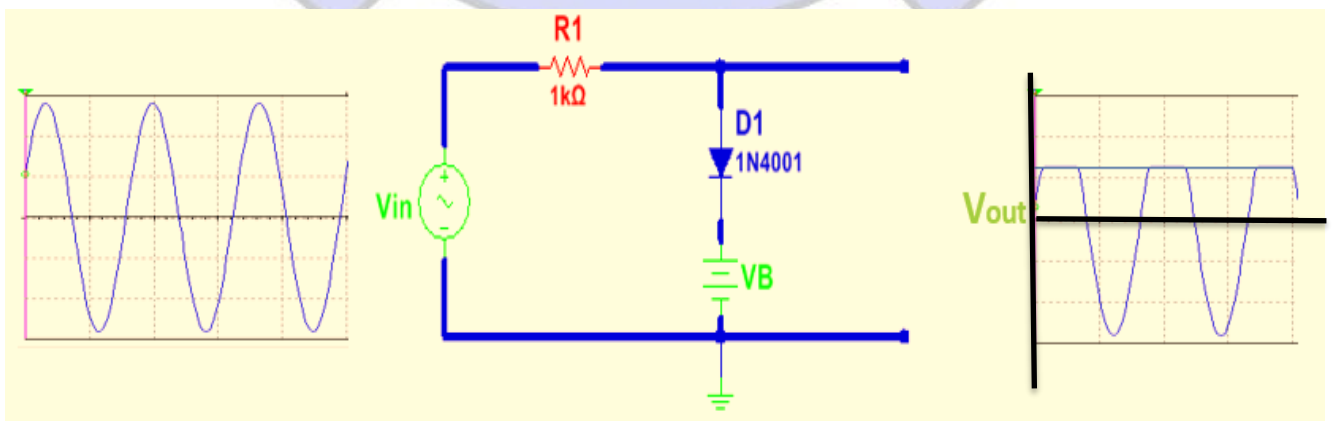

Figure 2: Biased Parallel Diode Clipping Circuit
The level to which an AC voltage is limited can be adjusted by adding a bias voltage  $V_B$  in series with the diode as shown in Fig.2.
- If the diode in the circuit of Fig.2 was reversed, then sketch the output waveform in this case and explain briefly the operation of the circuit.